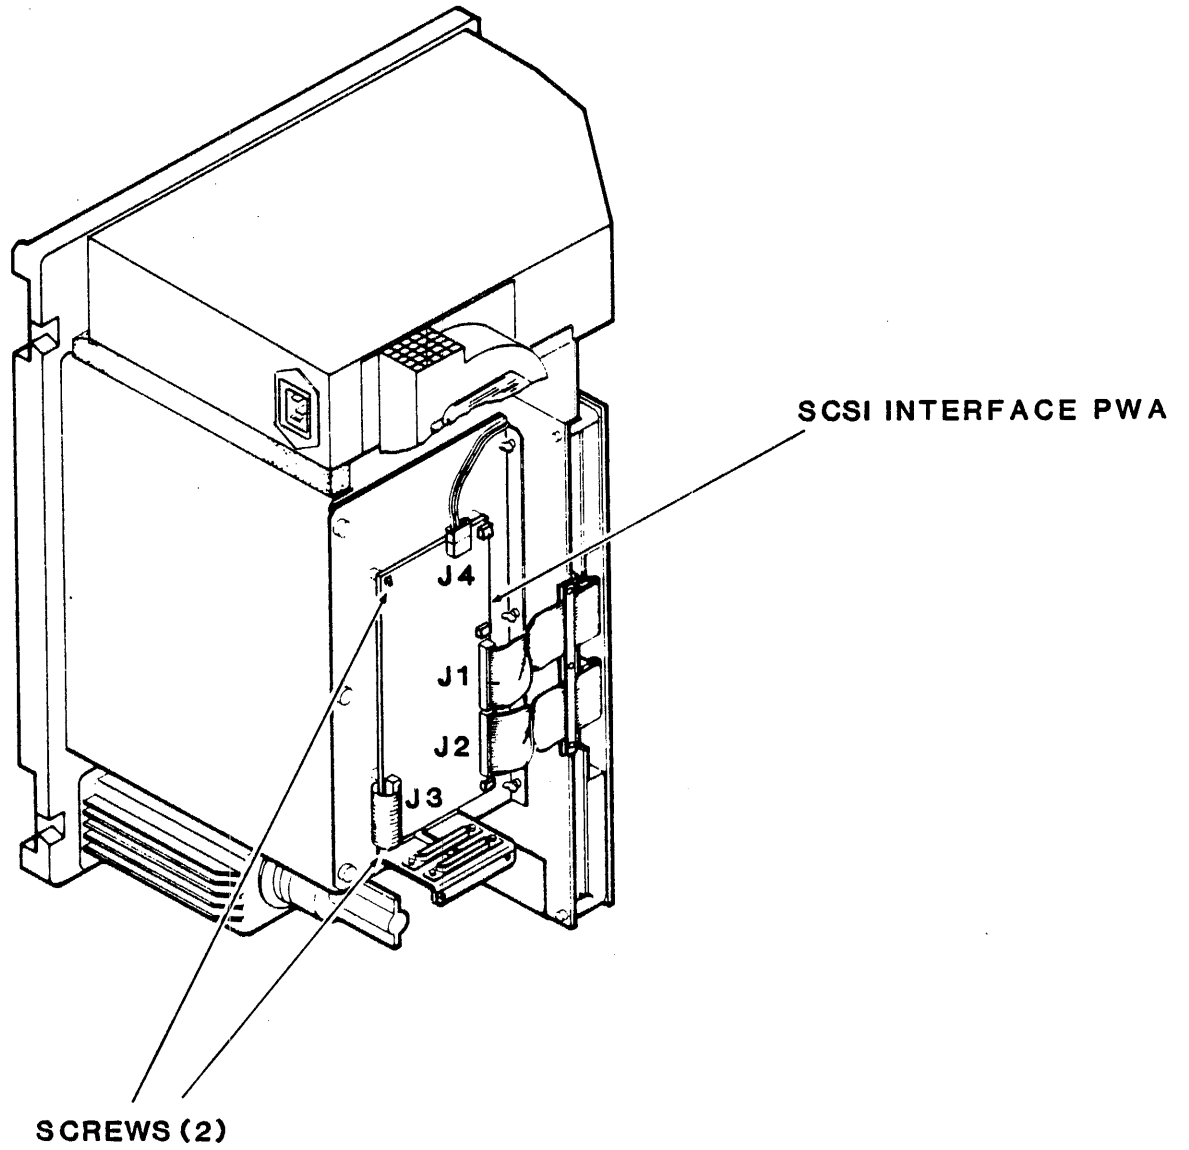

Figure 6-29. SCSI Interface PWA
2. Remove two screws securing SCSI interface PWA to Drive Cover Assembly (Figure 6-29) and remove SCSI interface PWA.